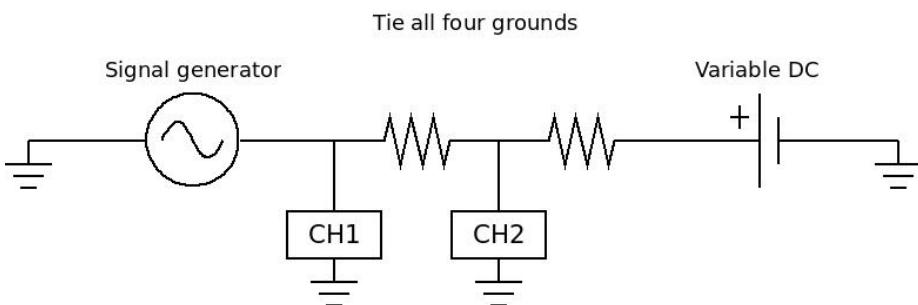

Figure 4.3: Schematic diagram of the circuit, with the voltage divider attached, grounds properly connected, and the oscilloscope in place.
Before we hook this bit of electronics to our Arduino, we want to check it using an oscilloscope. Our oscilloscopes have two channels where we can hook probes. Let's use one to measure the signal as it comes directly from the signal generator. Let's use the other to measure at the junction in between  $R_1$  and  $R_2$  right were we will connect pin A0. That should be our output. A schematic of the entire circuit, with the voltage divider attached, can be seen in Figure 4.3.
Once again, make sure that you use the oscilloscope to measure the output voltage from the voltage divider prior to attaching the Arduino. We can set up our circuit and clip the oscilloscope probe to either side of the capacitor, as seen in Figure 4.3.
1. Obtain a signal generator, and build the circuit in Figure 4.3. Attach the two leads of an oscilloscope, and tie all of the grounds together.